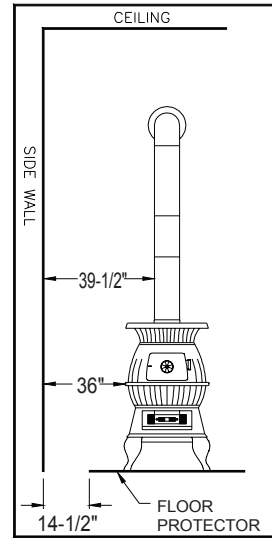

FIGURE 2
1. The installation of this stove must comply with your local building code rulings. Please observe the clearances to combustibles. (Refer to Figures 2 and 3) Stove must be 36" from a combustible wall (wood or plaster board) at rear or sides.
4. Use three (3) sheet metal screws in each stove pipe and/or elbow joint to firmly hold the stove pipe together. Use 6" round black/blue stove pipe, not galvanized stove pipe.
5. Recheck illustrations Fig. 2 through 7 to be sure you have the proper clearances shown from the stove and the connector pipe to combustible surfaces. NOTE: If a wall is only faced with brick or stone, consider it as a combustible wall.